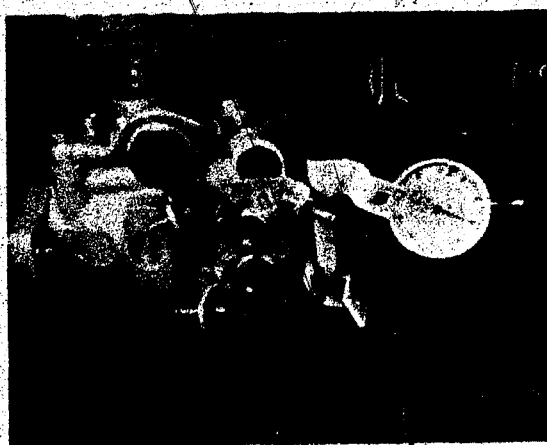

Fig. 2
1.1.3 Installation of the pump (Fig. 2)